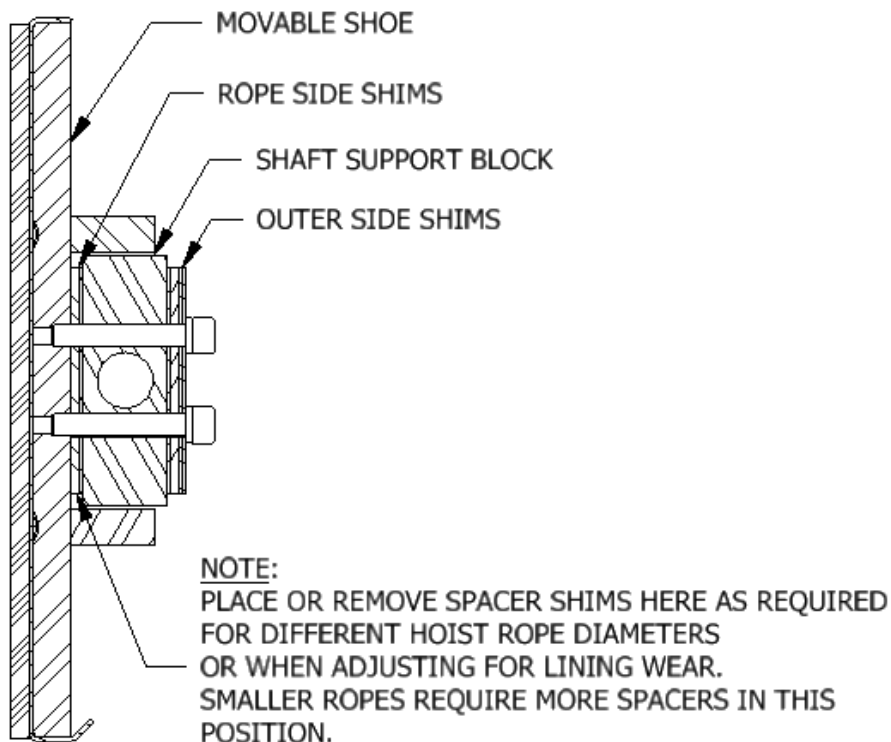

Figure 8 - Movable Shoe Assembly of 622G Rope Gripper™
- If the lining wear-in is not completed after the grooves in the linings have reached approximately 1/16" (1.5 mm) deep, spacer shims (see Figure 8 below) can be moved from between the shaft support blocks and moveable shoe to the outside of the support block to allow the rotating shaft to just turn the corner and move up the cam to near the wear-in line. Refer to Table 2 on page 7 for initial spacer and shim set-up. **Note: Before changing spacers, install security set screws to prevent unintended "ROPE GRIPPER™" activation,** which could lead to severe personal injury and/or damage to the unit.
- **If lining wear is not excessive**, less than 3/16” (4.75 mm), spacer shims (see Figure 8) can be moved from the back side of the shaft support blocks to between the shaft support blocks and moveable shoe. Loosen the bolts that hold the blocks to the movable shoe, move the spacer shims to under the blocks and reinstall and tighten bolts. Addition of shims between the block and the shoe will lower the position of the rotating shaft toward the bottom end of the cam when clamping.